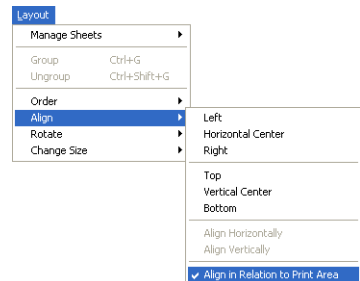

figure 12
- 3 Click the Align sub-menu in the Layout menu (see figure 12).